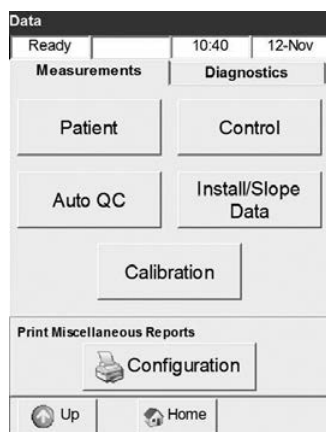

Fig. 4-38 Select Data
2. Select **<Patient>**, **<AutoQC>**, **<Controls>** or **<Calibration>** (Fig. 4-38).